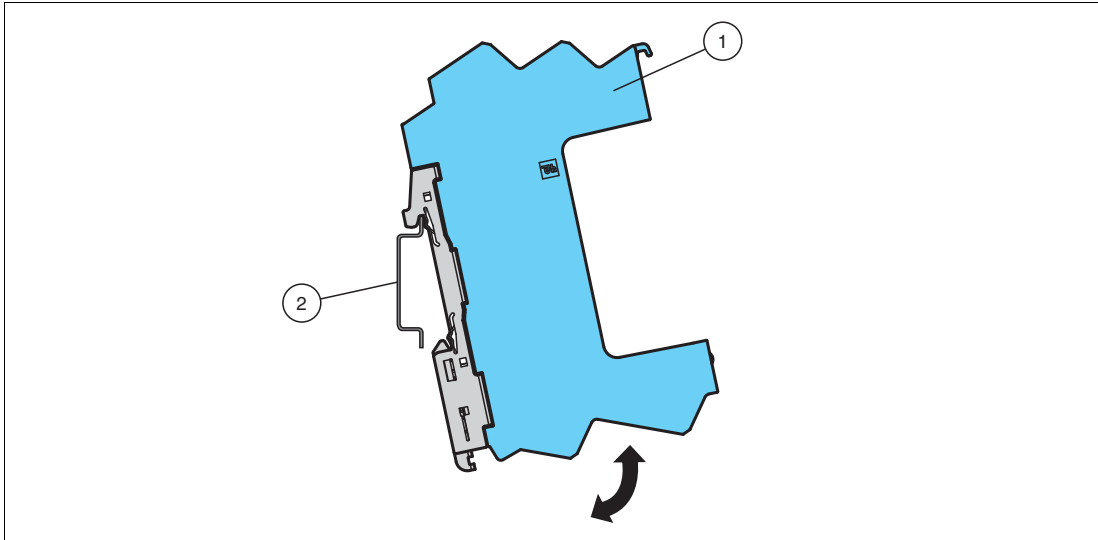

Figure 3.1 Mounting the base module onto the DIN mounting rail
Clip the base module (1) onto the DIN mounting rail (2). See Figure 3.1.